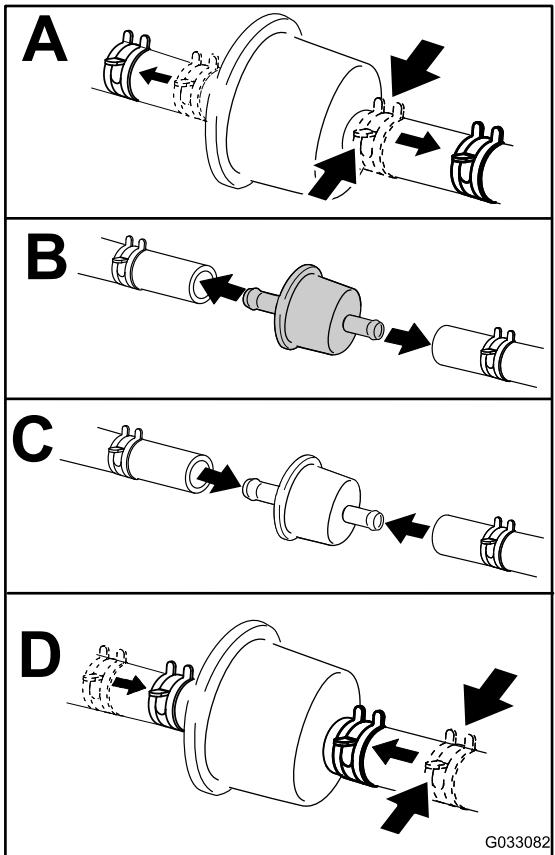

Figure 26
3. Replace the in-line filter (Figure 26).